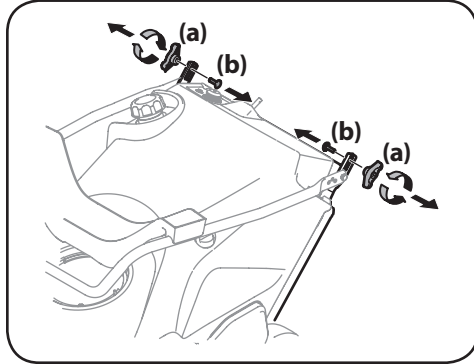

Figure 2-2
1. Remove the wing knob (a) and carriage bolt (b) from the top of the lower handle. See Figure 2-2. It is not necessary to remove the shoulder screw and flange lock nut below the wing knob and carriage bolt unless the handle is loose in the carton.